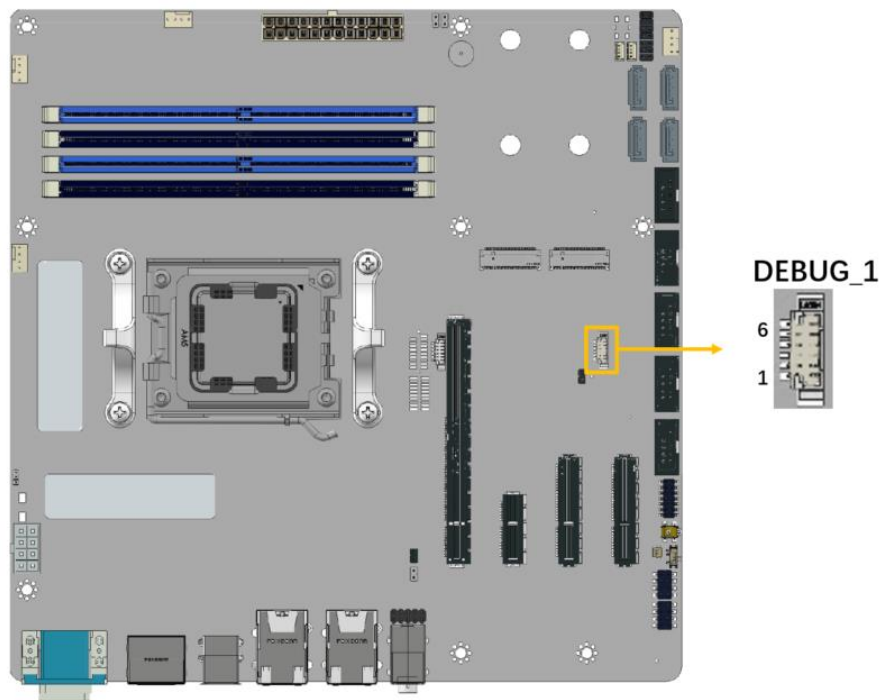

Figure 4-20: EC Debug Connector Location
- CN Location:** See **Figure 4-20**